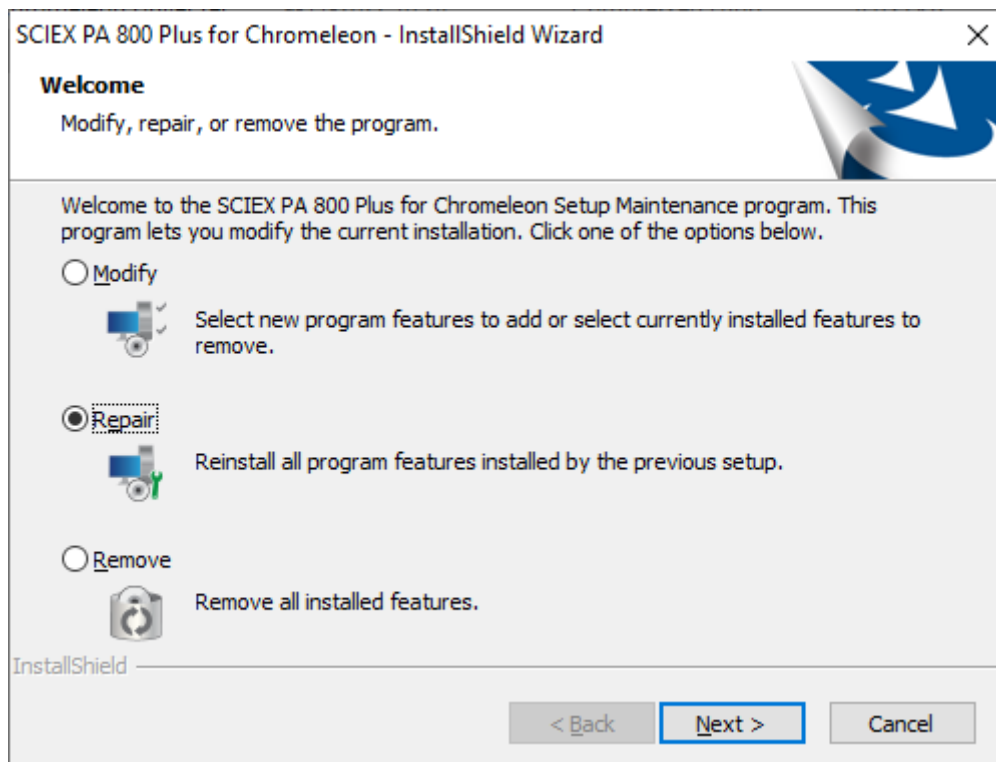

Figure 1: Maintenance mode
1. Insert the PA 800 Plus Driver installation medium into the PC. Click **Run Setup.exe**. This starts the PA 800 Plus Driver setup in **Maintenance mode** (see Figure 1: Maintenance mode).